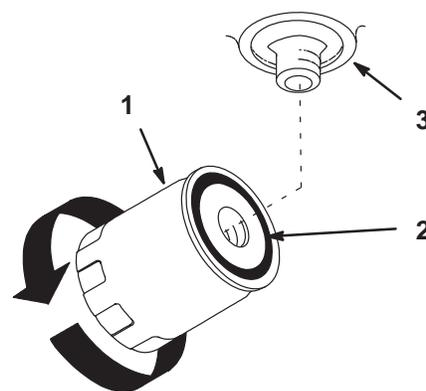

Figure 29
3. Apply a thin coat of new oil to the rubber gasket on the replacement filter (Fig. 29).
4. Install replacement hydraulic filter onto the filter adapter. Turn the oil filter clockwise until the rubber gasket contacts the filter adapter, then tighten the filter an additional 1/2 turn (Fig. 29).